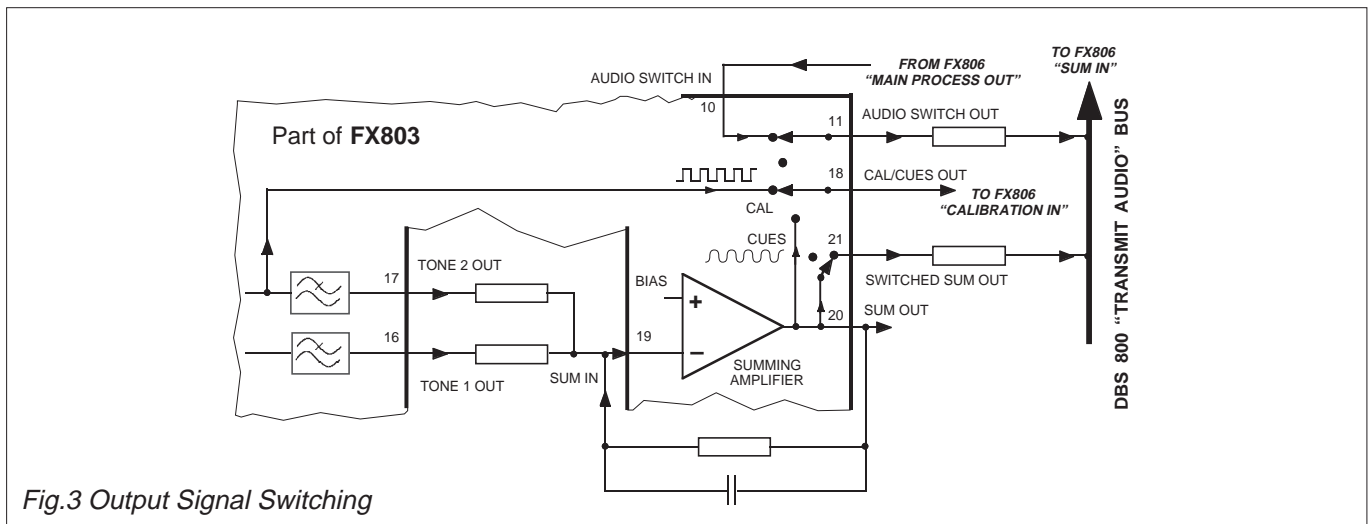

Fig.3 Output Signal Switching
3. Resistors marked with an asterisk (*) are System Components, calculated to operate in a system with other DBS 800 microcircuits. Figure 3 shows in detail, these components used in the System signal paths. R₃, R₄, R₅, C₅ – Tone mixing components to provide a 3dB tone-differential (twist) when used in a DTMF configuration. Single tone output levels are set independently or by the FX806 Modulator Drivers. R₇ – Modulation level and matching for inputs to the FX806.
See the Signal Switching diagram (Figure 3) and DBS 800 Document for application examples.
To break the FX803 drive to the FX806 PLMR Audio Processor (see Figure 3, Signal Switching).